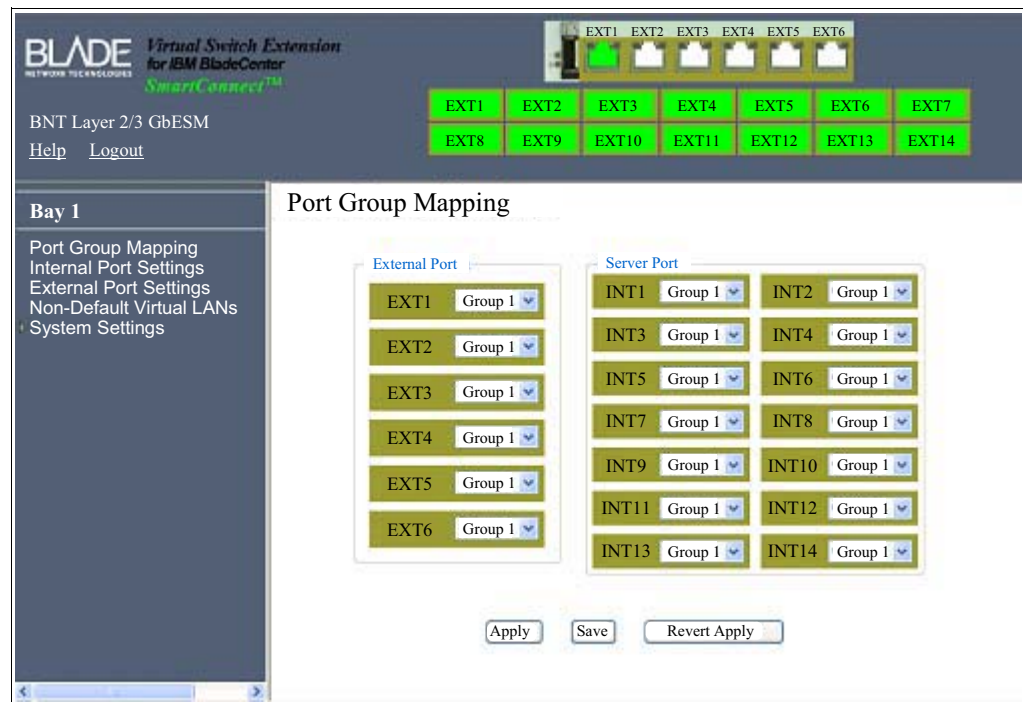

Figure 2-30 Switch web interface
- Click **Start Session**. You see the web interface of the switch you selected. In our example, the switch is a Lenovo RackSwitch switch on which BladeOS is running, as shown in Figure 2-30. If you have different switches that are installed, the interface might be different.
Figure 2-30 shows that all the blade servers connected to the specific switch are in one group (Group 1) and use static VLAN (port-based) information. For other switch devices, you might see the dynamic VLAN setting with the Media Access Control (MAC) address of the server that is connected to the port. However, you can ascertain the logic diagram by examining the types of VLAN settings.